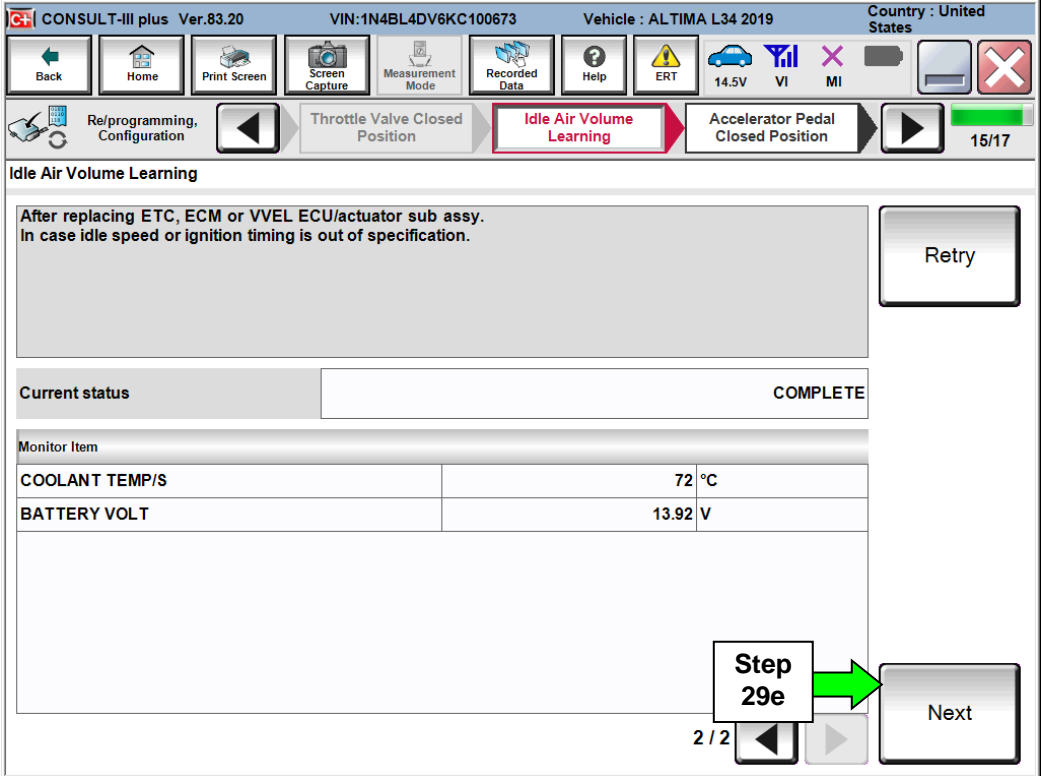

Figure 21
d. Wait for IAVL to complete (Screen in Figure 21 will be displayed).